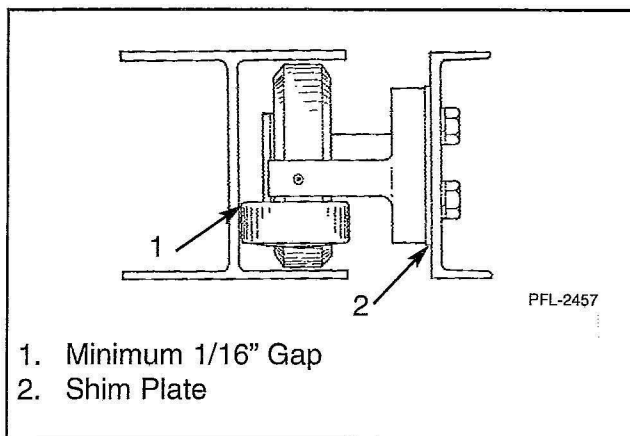

Figure 17
3. Maintain a minimum of 1/16" clearance between guide roller and closed side of column. Add or remove shim if necessary. See Figure 17.